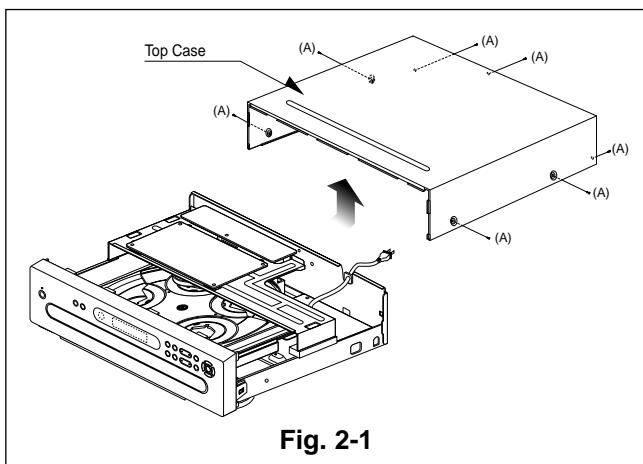

Fig. 2-1
1. Release 7 screws (A). (See Fig. 2-1)
1. Remove the top case.(See Fig. 2-1)
2. Remove 10 screws (B).
4. Unscrew 3 screws(C) at Bracket Main.
6. Unscrew 4 screws(D) at MD Ass'y DPM1.
10. Unscrew 4 screws(F) at Power circuit.